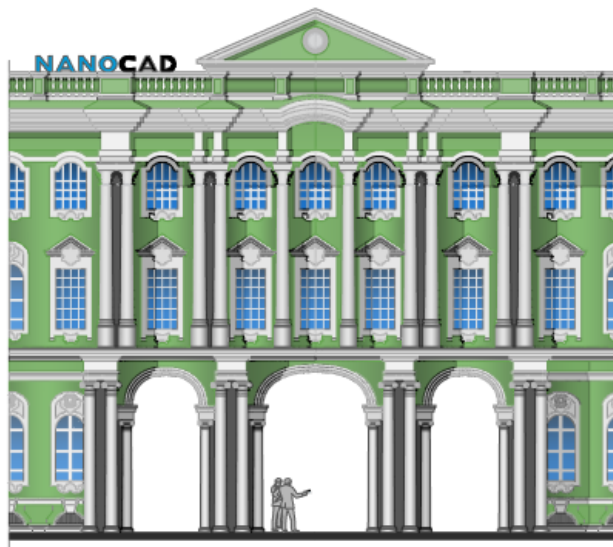

Fig.30. Final view of the Facade
2.15. The facade is finished. The final result should be as shown in fig. 30: